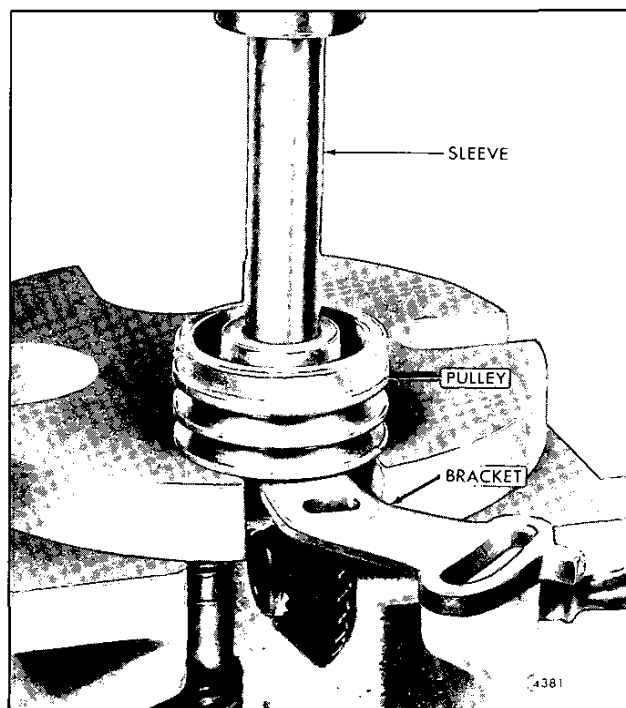

Fig. 2 - Removing Shaft and Bearing Assembly and Bracket from Idler Pulley
1. Support the pulley, then press the shaft and bearing assembly and bracket from the pulley by applying pressure to the outer race of the bearing (Fig. 2).